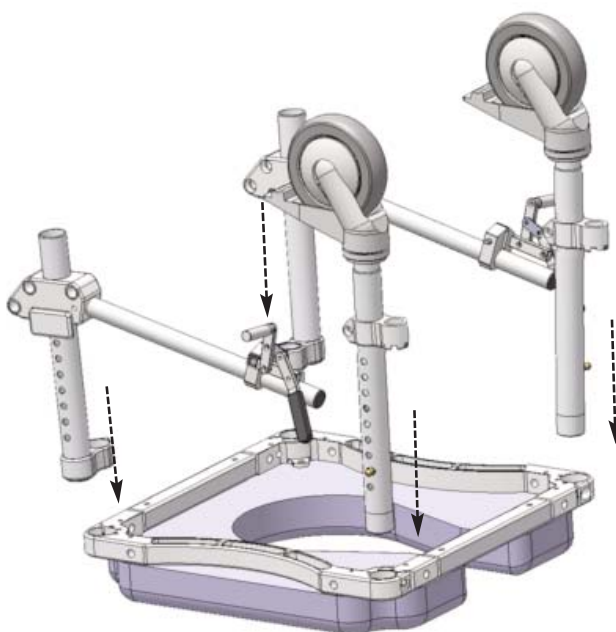

Figure 2
D The top end of each leg should fit easily into the socket of the frame. Make sure that the legs slide "home" into the sockets. Use the included $\frac{1}{4}$ " Allen wrench to tighten the bolts located at the corners of the frame. For ease of future leg height adjustment, position each leg in the socket so that the adjustment holes face outward (Refer to Figure 2).
- 2) Remove the four legs from the seat frame: Reverse the process shown on Page 1 [Assembly Instructions] Step C (Refer to Figure 2).